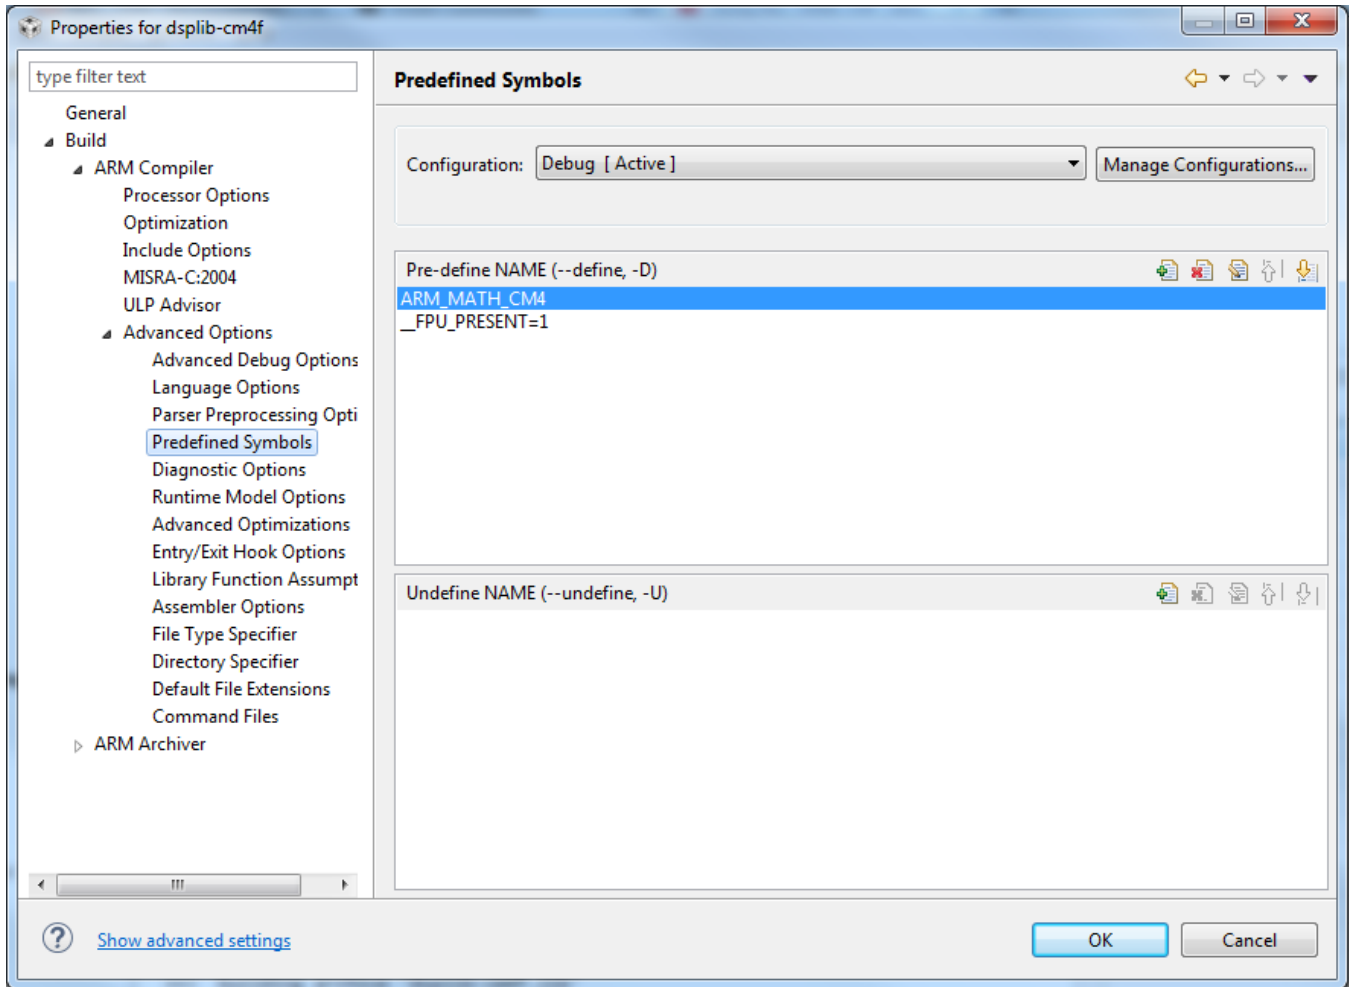

Figure 10. Adding Project Level #defines for the Processor Characteristics
- Expand the Advanced Options menu again and select the Predefined Symbols panel. Create a symbol to tell the DSP library to use Cortex-M4 based math functions. Click the *Add...* button in the *Pre-define NAME (--define, -D)* area. In the *Enter Value* dialog box, type `ARM_MATH_CM4` into the *Pre-define NAME (--define, -D)* field and click **OK** (see Figure 10). Click the *Add...* button again type `__FPU_PRESENT=1` into the *Pre-define NAME (--define, -D)* field and click **OK**.